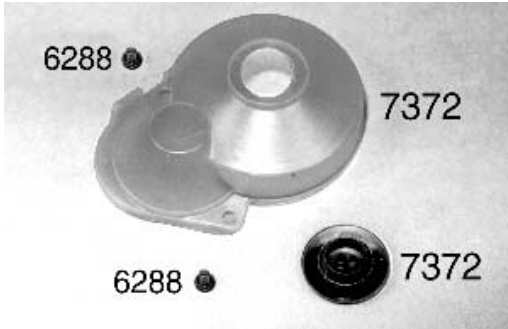

Fig. 159
□ **Figs. 159, 160 & 161** In the Stealth transmission bag you will find the bag containing the new #7372 T2 gear dust cover and black insert button. In the same bag you will find two #6288 4-40 x 1/4" BHSScrews. Trim the edge of the plastic gear cover so that it will fit over the motor plate. You will also need to trim the center hole for the black insert button. Now drill out the two mounting holes in the gear cover for the #6288 screws. Secure the cover to the motor plate with the #6288 screws and install the black insert button. Fig. 161 shows the button removed and adjusting the Associated Torque Clutch using a 1/4" nut driver.